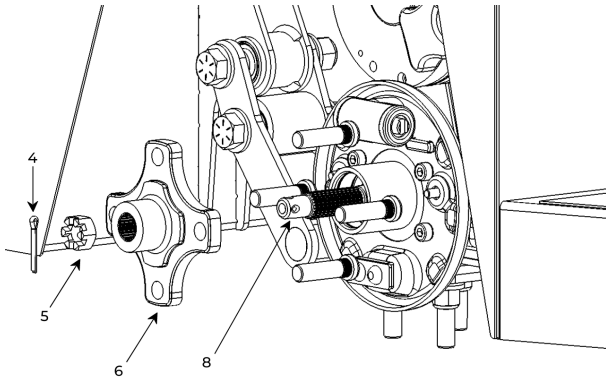

Figure 54. Cotter Pin and Castle Nut and Spindle Removal.
11. Reinstall the enclosure (5). It is important to ensure that both A1 and F1 are positioned in parallel. (See Figure 54)
12. Reinstall the DC motor (1) on the differential (3) with the six screws (2).
13. Torque the screws (2) to standard values. The appropriate torque value is 24 ft lbs.
14. Remove the lifting device from the DC motor (1).